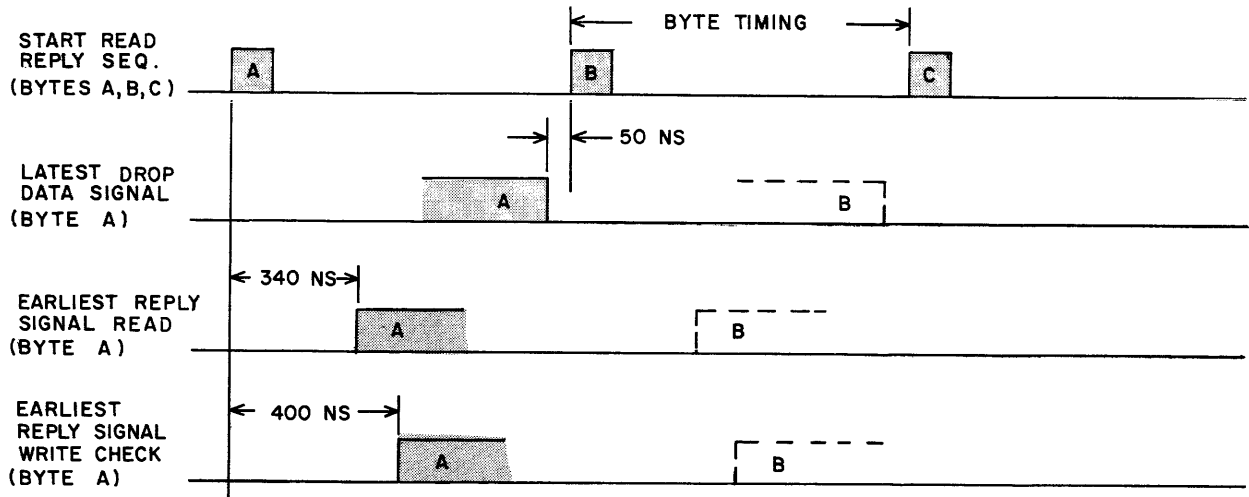

Figure A-7. Read/Write Check Timing
- 2) The earliest a Reply can occur is 0.34 microseconds for a Read operation and 0.4 microseconds for a Write Check following the start of the Read Reply sequence for that byte (refer to Figure A-7).